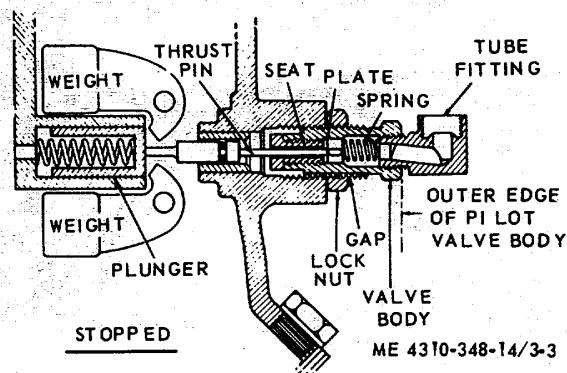

Figure 3-3. Adjusting the unloader pilot valve.
b. *Adjustment.* To adjust. the outside exhaust pilot valve, refer to figure 3-3 and proceed as follows: